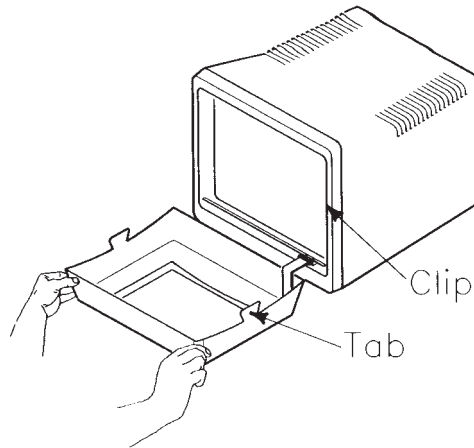

Figure 10-5.
6. Hold HP Touch in front of the monitor. Tilt the top of HP Touch toward the monitor. Line up the upper edge of HP Touch's side mounting tabs so that they slip under the retainer clips on the monitor (Figure 10-5).